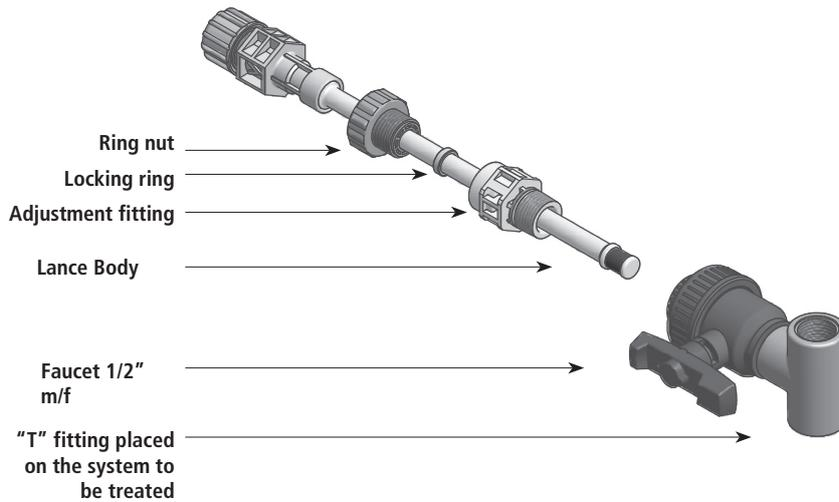

FIG. 1.
- - Prepare the injection lance as shown in Figure 1.